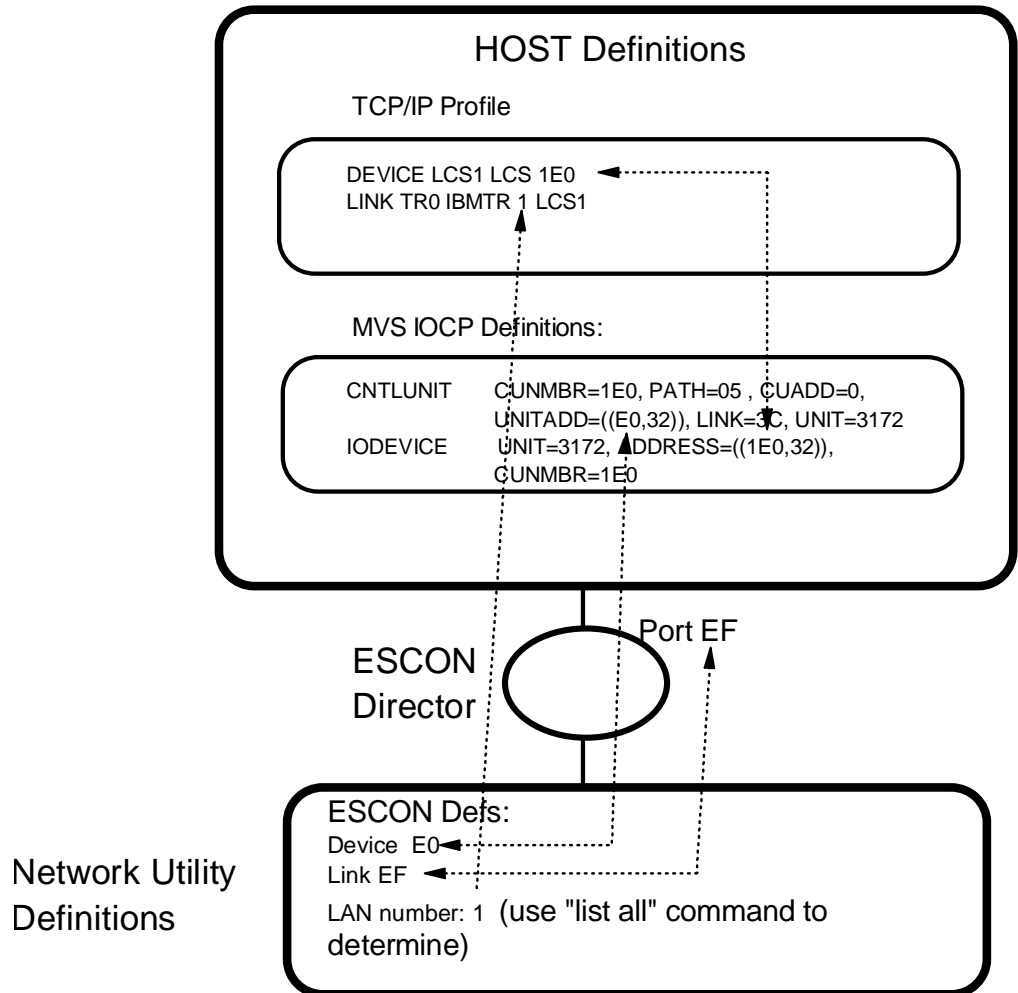

Figure 41. Host/Network Utility Parameter Relationships - LCS
Figure 41 on page 232 shows how the parameters correlate between the host and the Network Utility for an LCS interface definition.
2. The device address specified in the Network Utility LCS interface definition must be within the range specified in the UNITADD parameter in the CNTLUNIT macro from the IOCP. For example, the UNITADD parameter in Figure 41 shows that 32 (decimal) device addresses starting at E0 (hex) are being reserved for the Network Utility definition. A device address of E0 has been specified for the Network Utility LCS interface. The Network Utility will automatically allocate E1 also. Since E0 and E1 are in the range E0 to FF hex, this is OK as long as no other device (or interface on this Network Utility) tries to use these same subchannels.
3. The value specified in the DEVICE statement in the host TCP/IP profile must be within the range specified in the ADDRESS parameter in the IODEVICE macro from the IOCP. For example, the DEVICE statement in the host TCP/IP profile in Figure 41 is 1E0 hex, which is in the range 1E0 to 1FF that the ADDRESS parameter in the IODEVICE statement specifies.